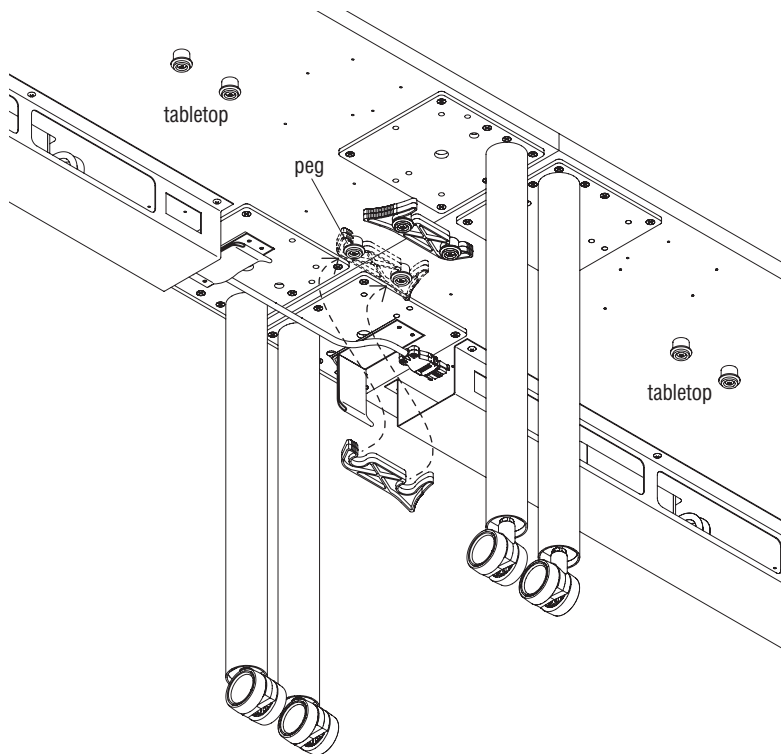

Figure 3 - Side-to-Side Ganging
1. Move the tables to be ganged together, such that the two pair of ganging pegs face each other. As illustrated, with the two ganging hook ends opposite each other, position and snap the two ganging hooks onto their respective ganging pegs to gang tables together as illustrated (Figure 3).
Note: Tables illustrated in Figures 3 are 24" deep. Tables which are 30" deep and larger will allow for the ganging hooks to swing into and out of position on the pegs, as shown in Detail A.
2. Once mechanically joined together securely, tables with Pattern may now have their table-to-table connections made. If the tables are using Pattern, route the Pattern table-to-table power jumper from one table over to the second. Connect the male end of the jumper to the closest Pattern power distribution block. Repeat step 2 to make the remaining power connections for the remaining tables (Figure 3).
3. Strap in the desired cords using the installed Velcro wire manager (Figure 3).